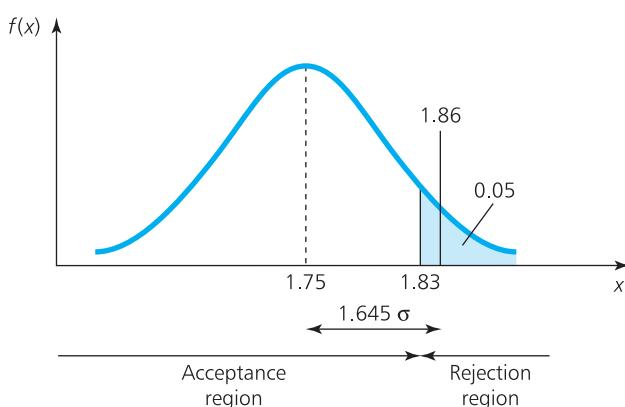

Figure 17.5 Acceptance region for BookCheck Mail-Order (worked example 17.6)
- 6 *State the conclusion.* The evidence from the sample does not support the view that the mean weight of packages is 1.75 kg. The evidence supports the alternative hypothesis, that the mean weight is more than 1.75 kg. This is illustrated in Figure 17.5.